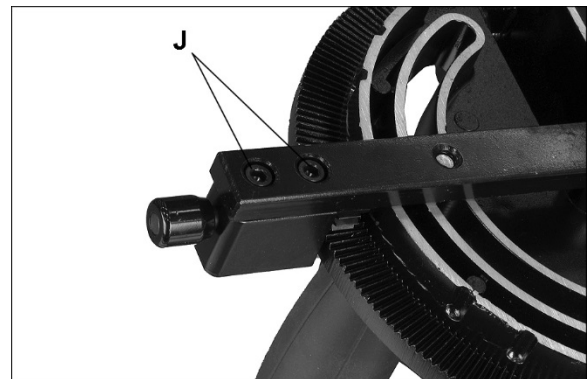

Figure 18
4. Adjust body (B) until it is square (90°) to miter slot.
5. Tighten lock handle (A).
6. Verify that *scale indicator* (G) reads 0°. If further adjustment is needed:
7. Loosen screw (F) and adjust *indicator* (G) until it reads 0°.
8. Tighten screw (F).
9. If the above procedure does not satisfactorily align the miter gauge, loosen two screws (J, Figure 18) beneath mounting block and shift block as needed. Retighten screws when finished.